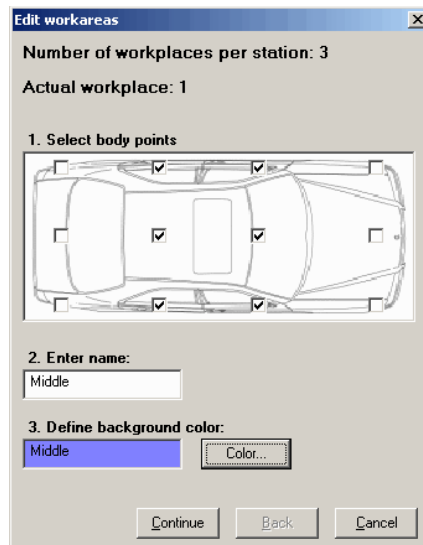
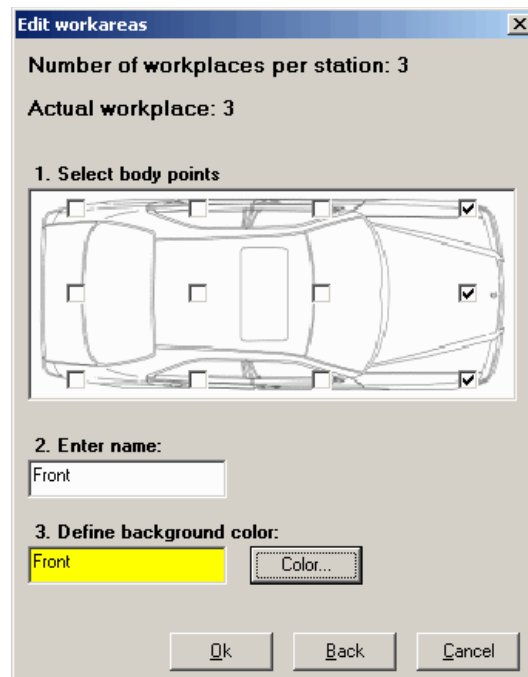

Figure 97: Example of First Workplace
Figure 100: Example of Third Workplace
In the **Work areas** dialog, each workplace is defined. You have to specify work positions (there are three in the example) for each workplace. A balancing process cannot be calculated unless each work position offered (*Please refer to the Figure 97*) has been enabled at the last workplace at the latest.
Use checkmarks to specify the work area. *Please refer to the Figure 97.*
- 1) To specify the work positions, checkmark the fields in **Select body points**. (Please refer to the Figure 97).
- 4) Click **Continue** in the dialog to define the next workplace. Please refer to the Figure 97.
This is due to potential overlapping of work positions. Continuing with this example, you could also now assign work positions to workplace 2 that had previously been assigned to workplace 1 (Please refer to the Figure 97). Workplaces that have not yet been assigned a work position will not be displayed until the last work position has been reached. Please refer to the Figure 100.
- 7) You will have to assign these three unassigned **work positions**. **Workplace 3, Front** area, is assigned these positions. *Please refer to the Figure 100.*